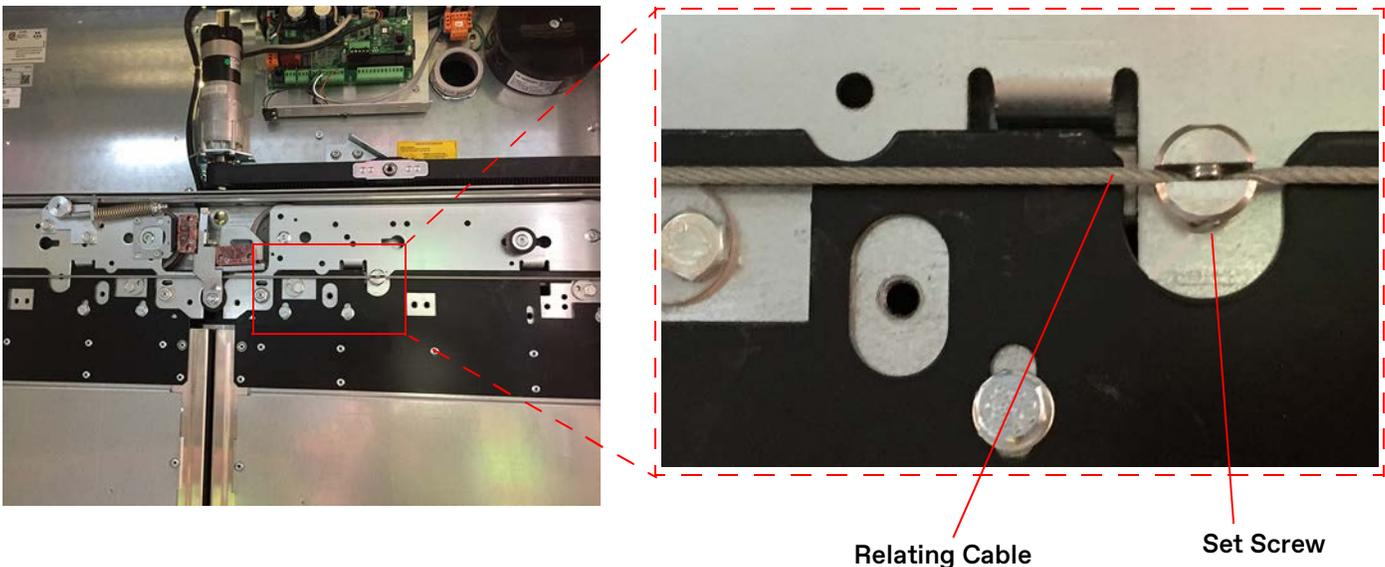

Figure 10 - Center-Opening Relating Cable for Car Doors
2. Loosen the relating cable set screw until it is flush with the leading edge of the car doors to the returns. See Figure 10.